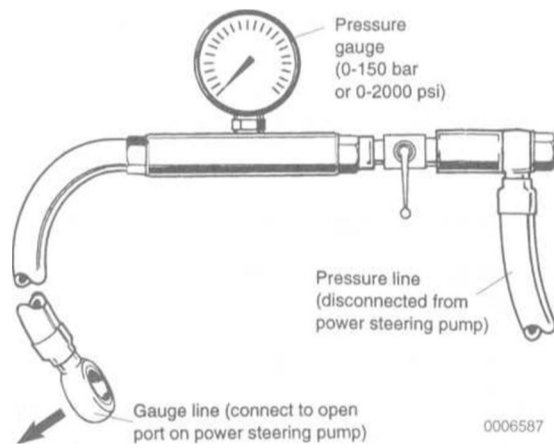

Fig. 2. Pressure gauge setup (or testing power steering pump pressure).
1. Connect the pressure gauge in the high pressure line between the pump and the gearbox. See Fig. 2.